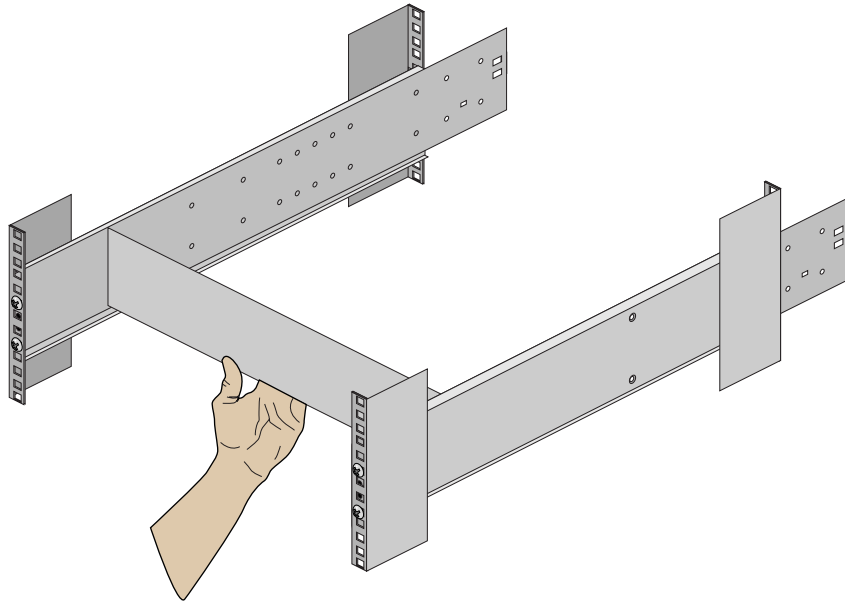

Figure 2-10 Slide the Alignment Tool from Front to Back
5. Double-check the alignment by moving the alignment tool through the rack. There should be no play between the alignment tool and the rails, see Figure 2-10 on page 28 for an example.